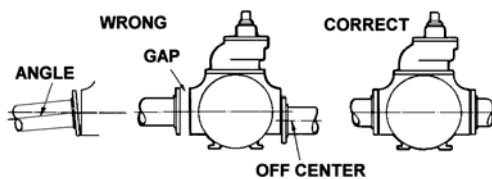

Figure 2
8. Check alignment of pipes to pump to avoid strains which might later cause misalignment. See Figure 2. Unbolt flanges or break union joints. Pipes must not spring away or drop down. After pump has been in operation for a week or two, completely recheck alignment.